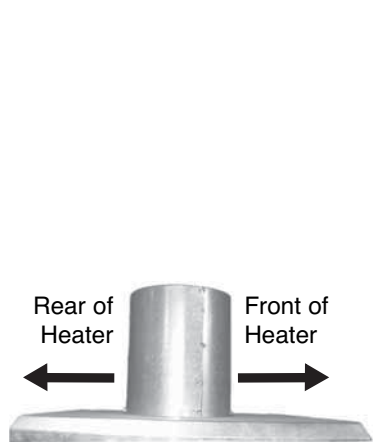

Fig 7
- Note: Brackets are positioned underneath the collar adapter to capture the smaller model, See Fig. 6. Also note the orientation of the adapter on the heater as shown in Fig. 7.